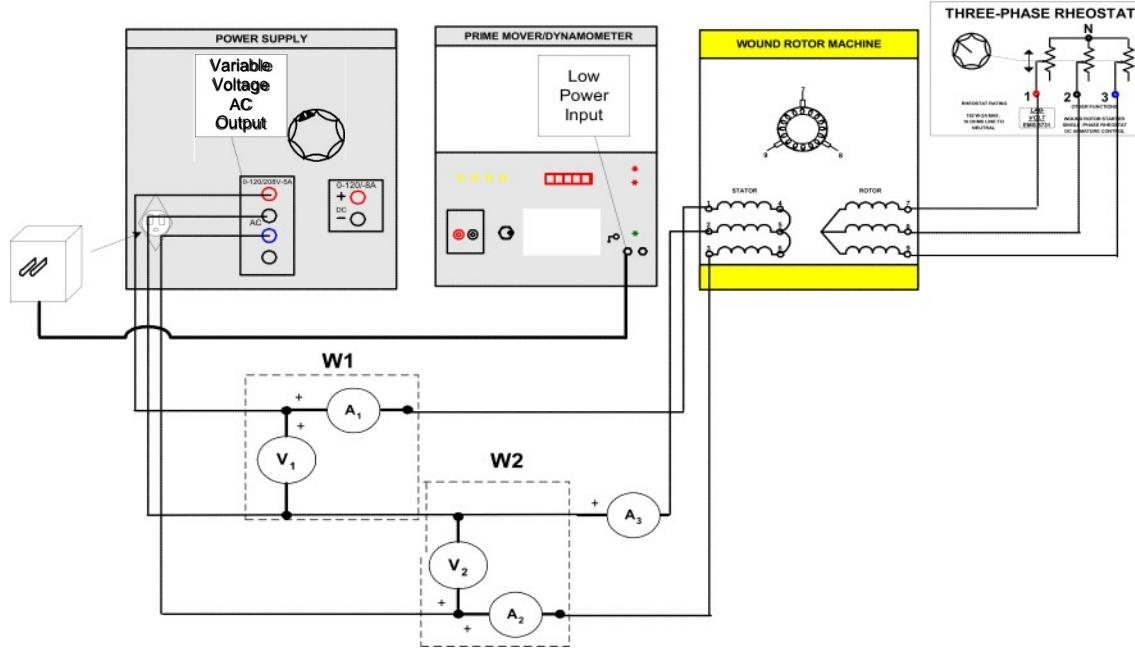

FIGURE 6.4
- Step 14: Connect the circuit shown if Figure 6.4. Do not couple the motor to the electrodynamometer at this time!